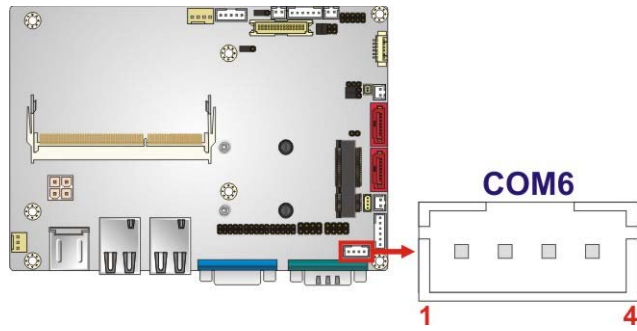

Figure 3-17: RS-422/485 Connector Location
- CN Location:** See **Figure 3-17**